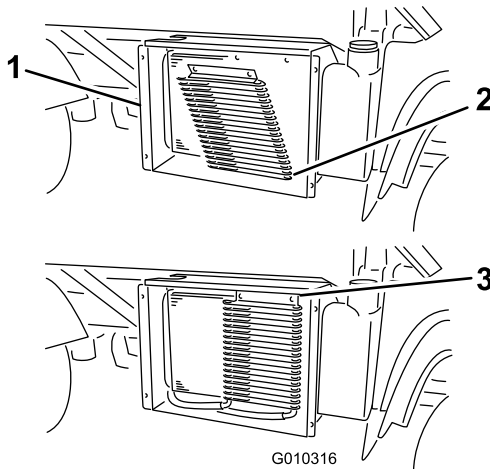

Figure 60
3. If so equipped, rotate the latches and pivot the oil cooler away from the radiator (Figure 60).